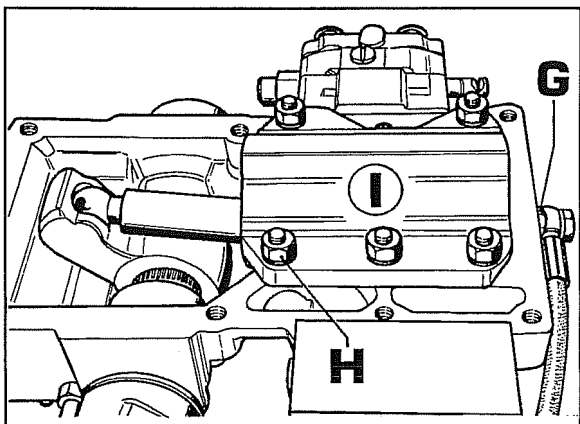

Fig. 30
- Remove the lift casing and place it on a work bench as shown in Fig. 30.
g. Disconnect fitting **G** Fig.30, remove screws **H** and remove cylinder **I**.